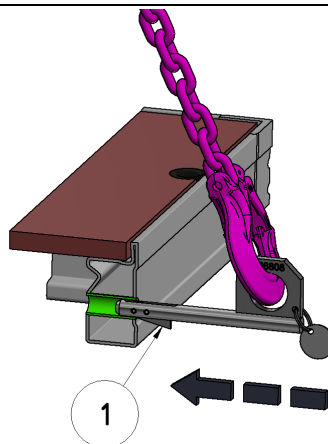

Figure 3
With the hook eye pointing upwards in accordance with Fig. 3, insert the lifting pin until the trap (1) snaps out again in accordance with Fig. 3.